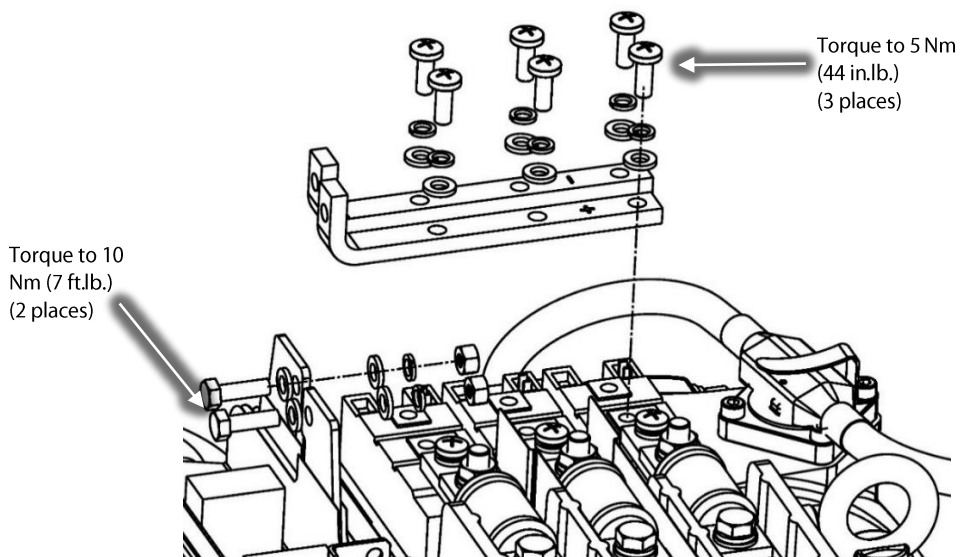

Figure 5 – DC Bus Bar Removal
13. Remove the DC Bus Bars from the SCRs. Refer to Figure 5 (DC Bus Bar Removal).
2. Loosely install the DC Bus Bars to the SCRs. Refer to Figure 5 (DC Bus Bar Removal).
3. Loosely install DC Bus Bars to the DC Bus Assembly. Refer to Figure 5 (DC Bus Bar Removal).